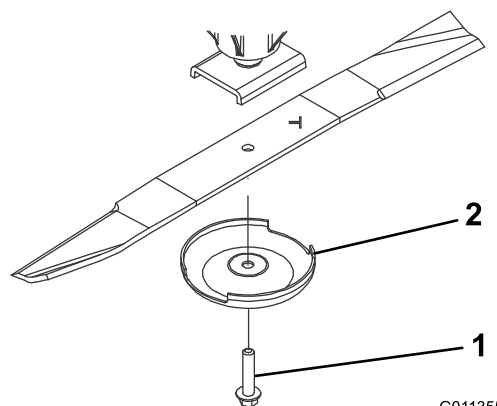

**Figure 65**
2. Grasp the end of the blade using a rag or thickly padded glove. Remove the blade bolt, anti-scalp cup, and blade from the spindle shaft (Figure 65).
3. Install the blade, sail facing toward the cutting deck, with the anti-scalp cup and blade bolt (Figure 65).
If the blade is allowed to wear, a slot will form between the sail and flat part of the blade (Figure 65). Eventually a piece of the blade may break off and be thrown from under the housing, possibly resulting in serious injury to yourself or bystanders.